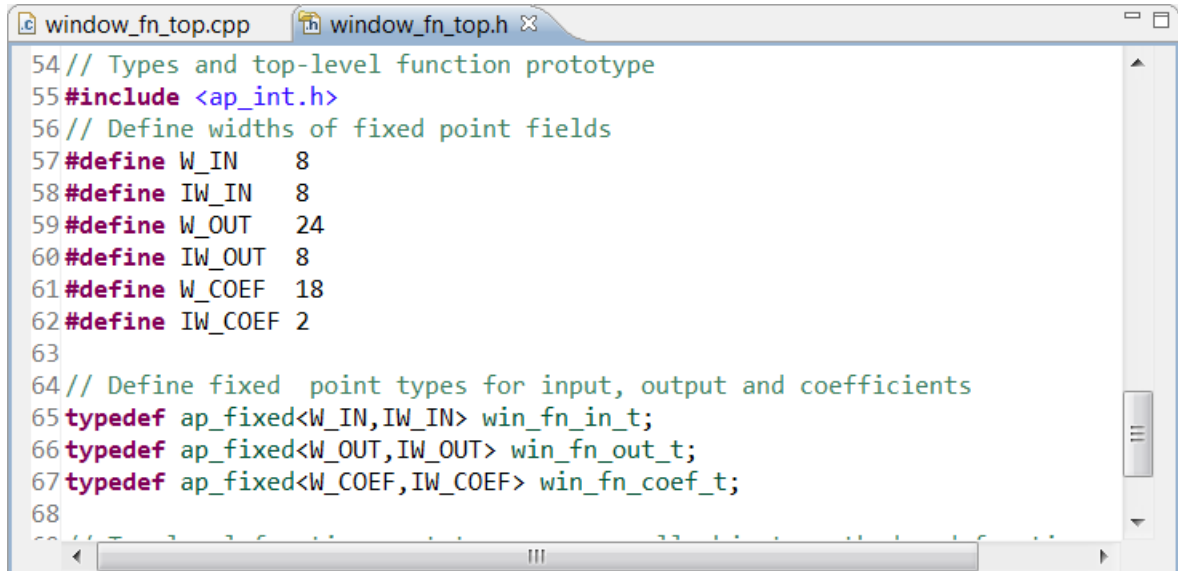

Figure 5-11: Type Definitions for Arbitrary Precision Lab 2
6. Scroll down to view the type definitions (Figure 5-11).